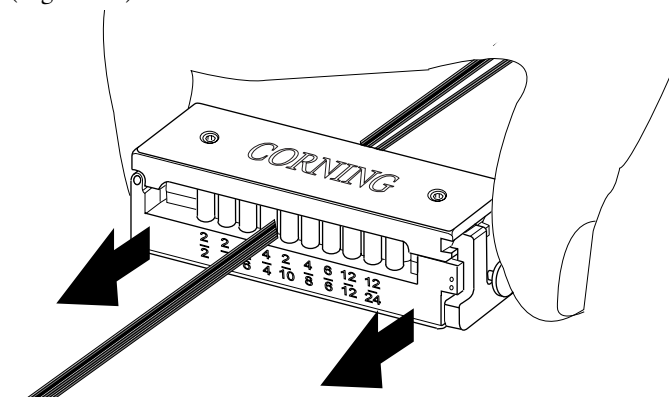

Figure 42
7.30 If appropriate for your installation, divide the ribbon(s) using the Ribbon Splitting Tool (RST-000) (Figure 42).